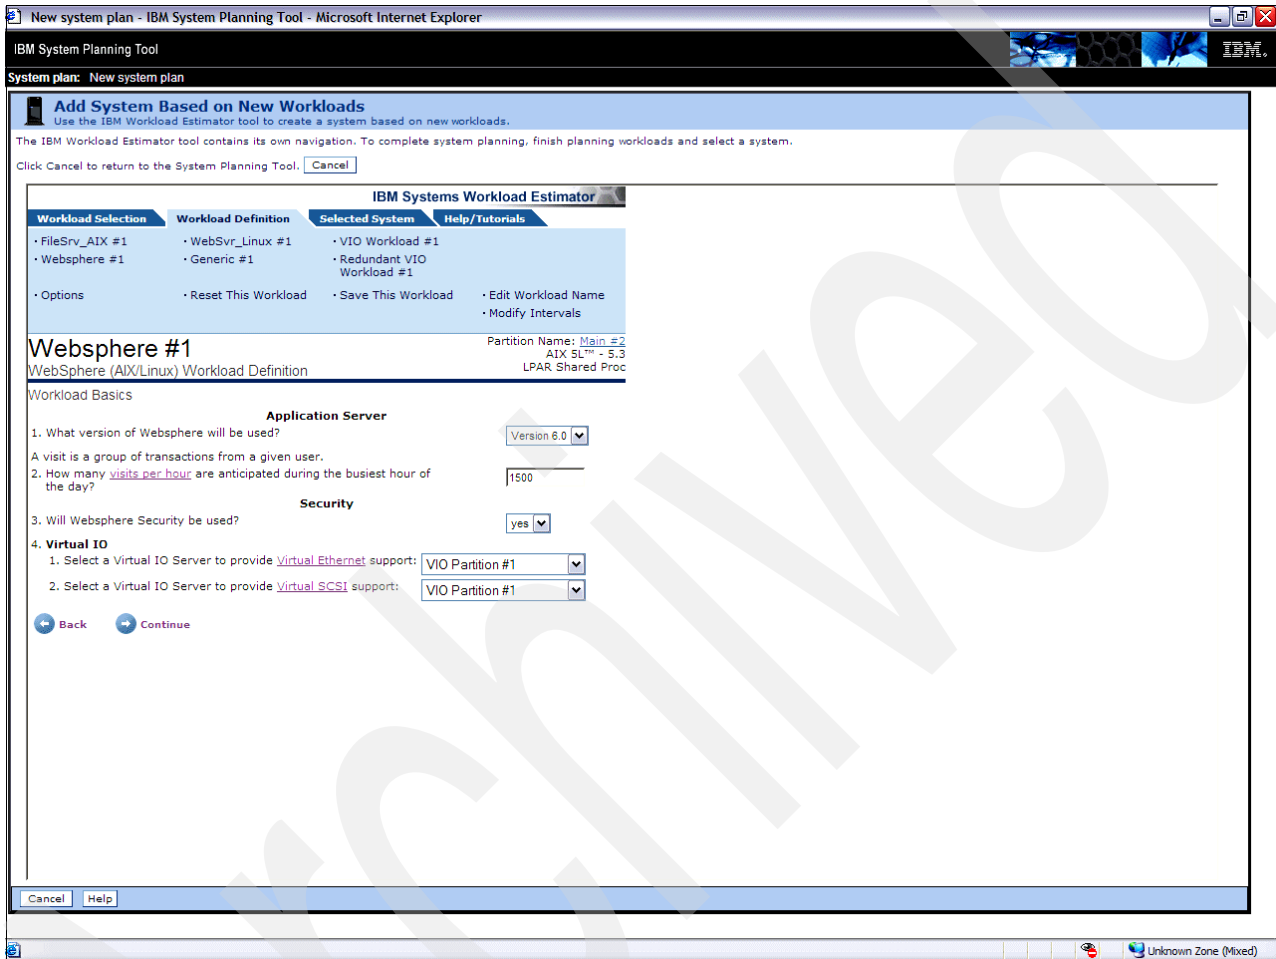
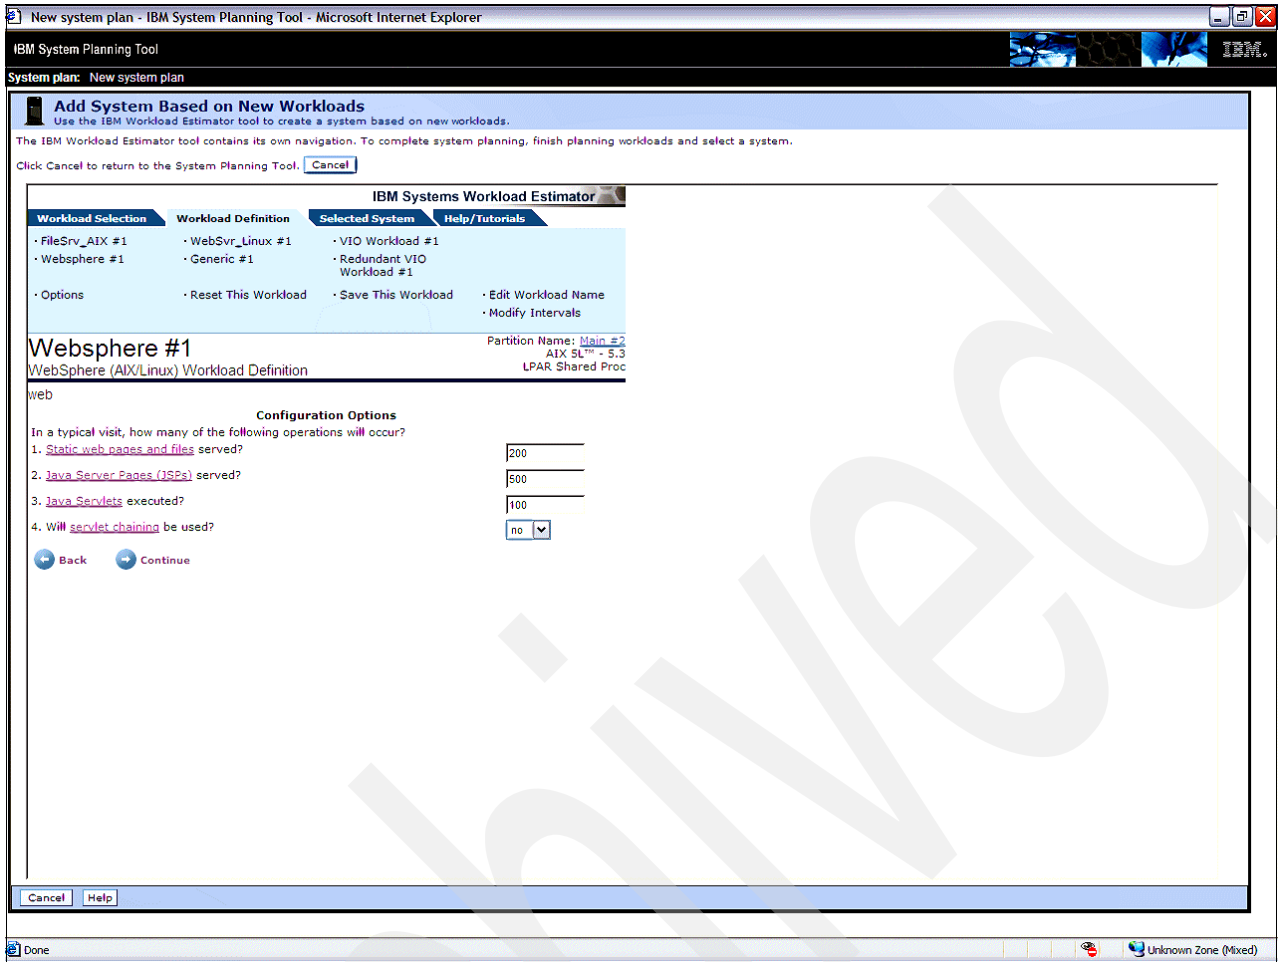
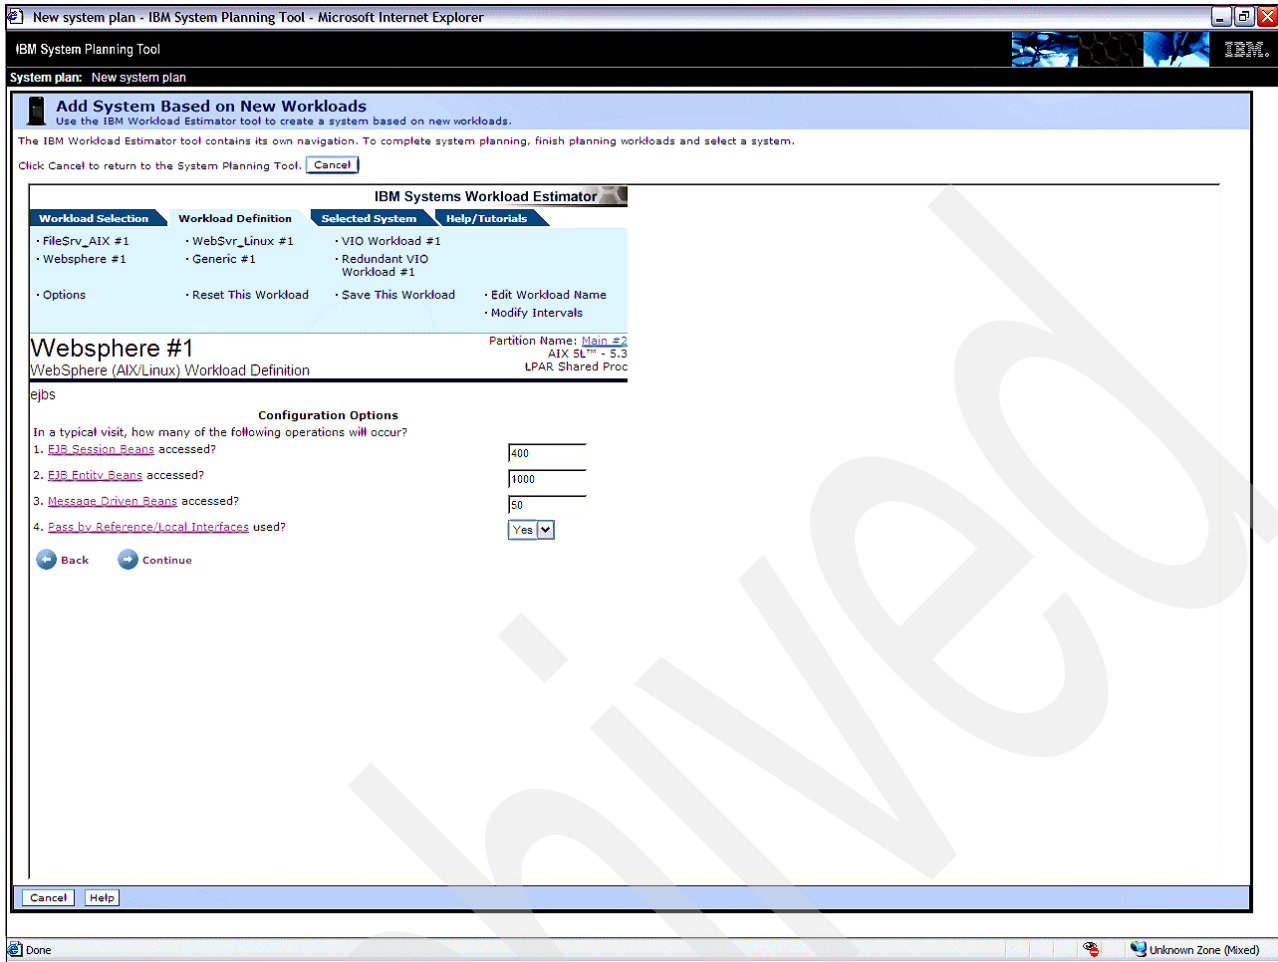
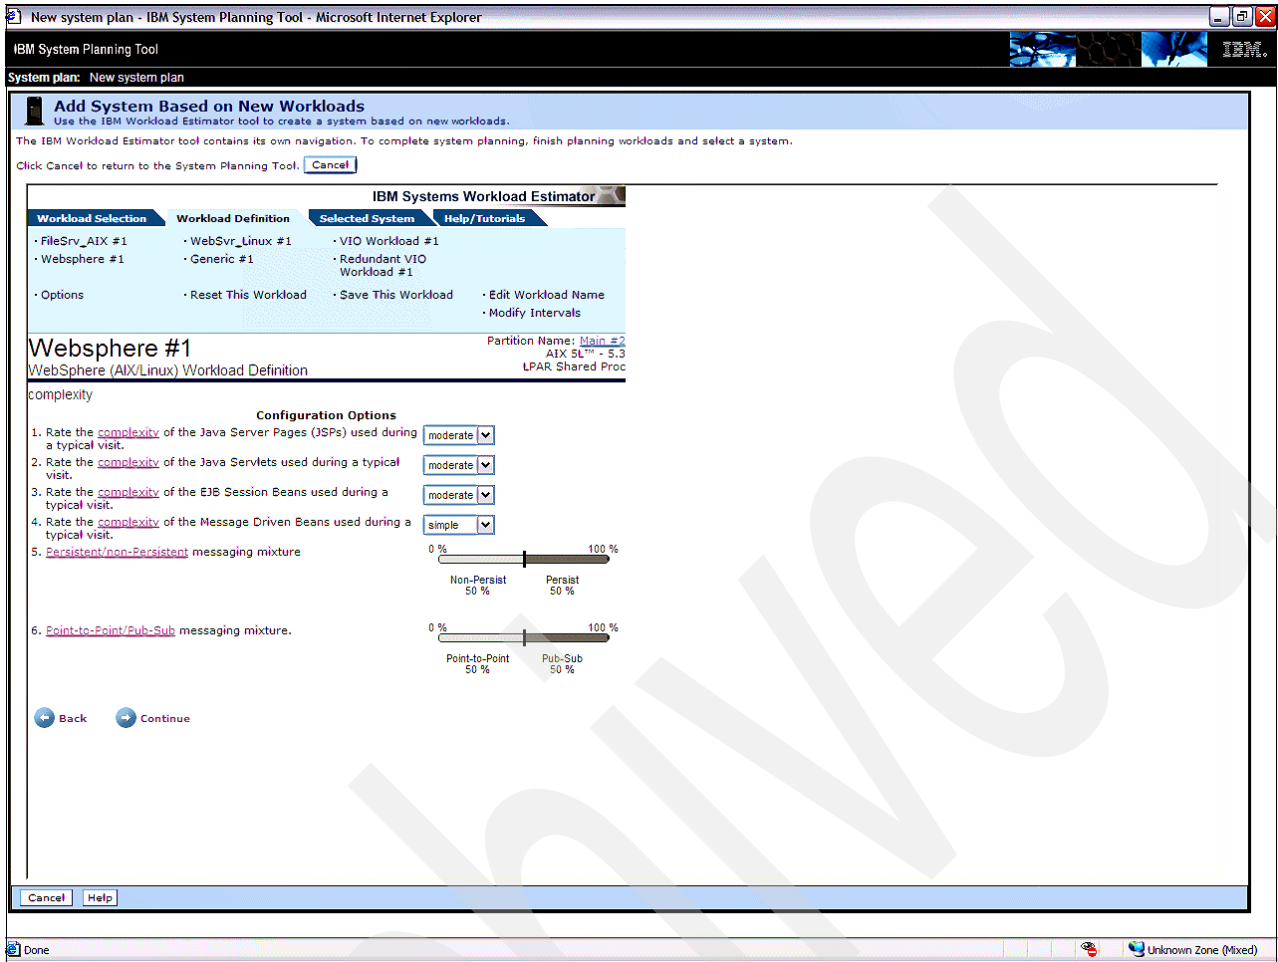

Figure 5-25 Defining a AIX WebSphere partitions - window 1 of 4
Figure 5-26 Defining a AIX WebSphere partitions - window 2 of 4
Figure 5-27 Defining a AIX WebSphere partitions - window 3 of 4
Figure 5-28 Defining a AIX WebSphere partitions - window 4 of 4
8. The next four windows show the questions for sizing an AIX WebSphere® application. The option to add this partition to a Virtual I/O Server is one of the selectable option. The examples in this selection are intended to show the options available, not show how to size a WebSphere application. Figure 5-25, Figure 5-26 on page 174, Figure 5-27 on page 175, and Figure 5-28 on page 176 show the question used for the sizing of a WebSphere application server.